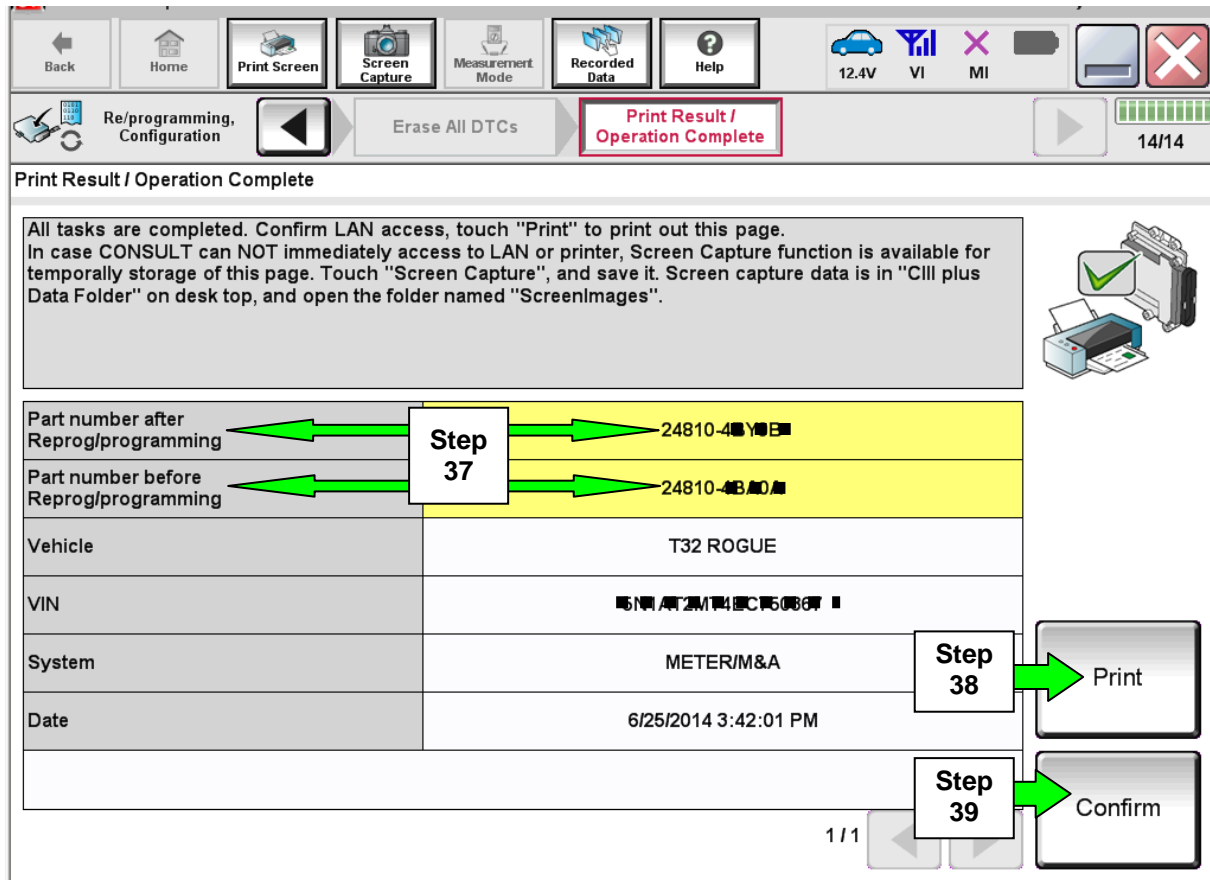

Figure 23
38. Print a copy of this screen (Figure 23) and attach it to the repair order.